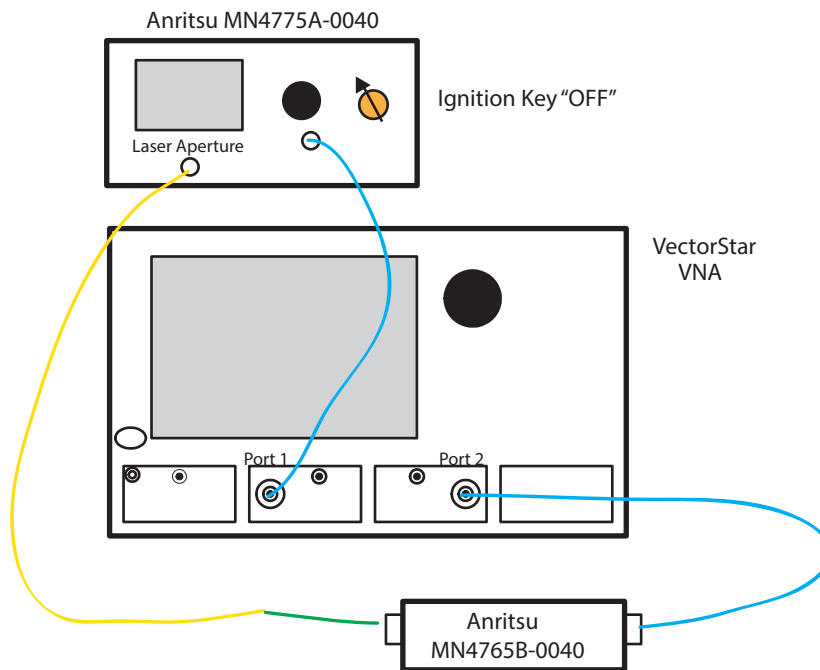

Figure 3-35. Turning Off Laser
11. Set E/O Converter Ignition key to **OFF** (see figure Figure 3-35).